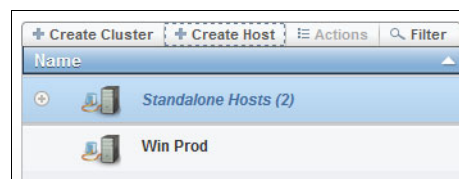

Figure 11-71 Create Host
6. In the Create Host window, click the **Create Host** tab, as shown in Figure 11-71.